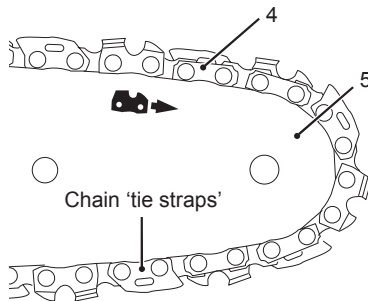

Fig. 5
1. Place the product on a suitable surface with the sprocket cover (15) facing forwards.
2. Check the chain tension using one hand to lift the saw chain (4) against the weight of the product. The correct chain tension is achieved when the saw chain can be lifted by approximately 1-2 mm from the guide bar (5) in the centre (Fig. 5, 6).